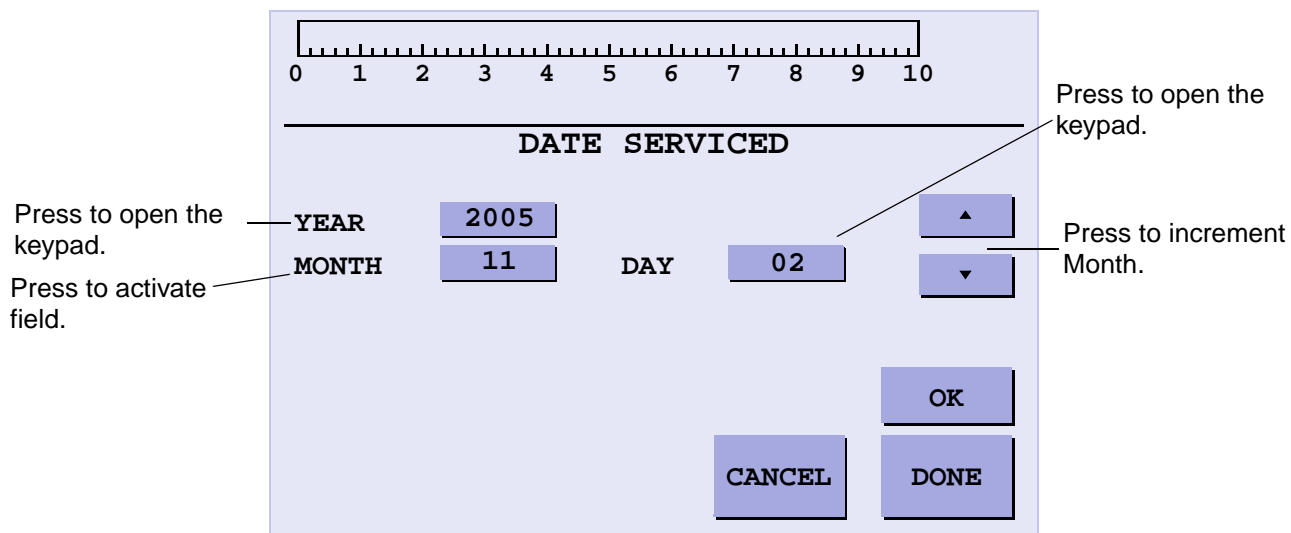

Figure 3-22 Date Serviced
- Press the date on the Fore Pump screen and the Date Serviced screen appears (Figure 3-22).